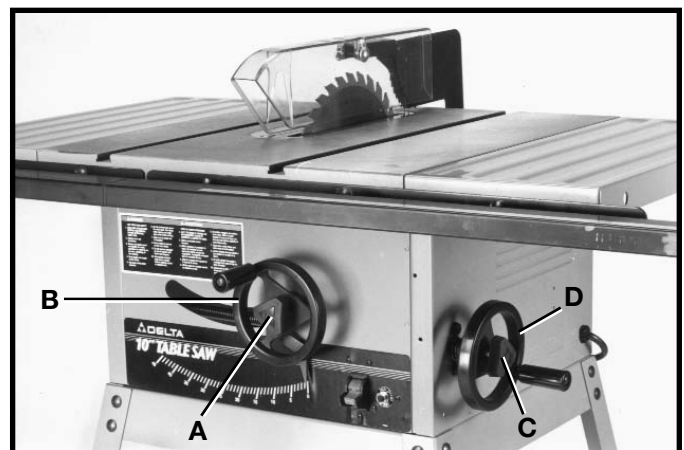

Fig. 35
To raise or lower the saw blade, loosen lock knob (A) and turn the blade raising handwheel (B) Fig. 35. When the desired blade height is obtained, tighten lock knob (A).
To tilt the saw blade for bevel cutting, loosen lock knob (C) and turn the tilting handwheel (D) Fig. 35. When the desired blade angle is obtained, tighten lock knob (C).